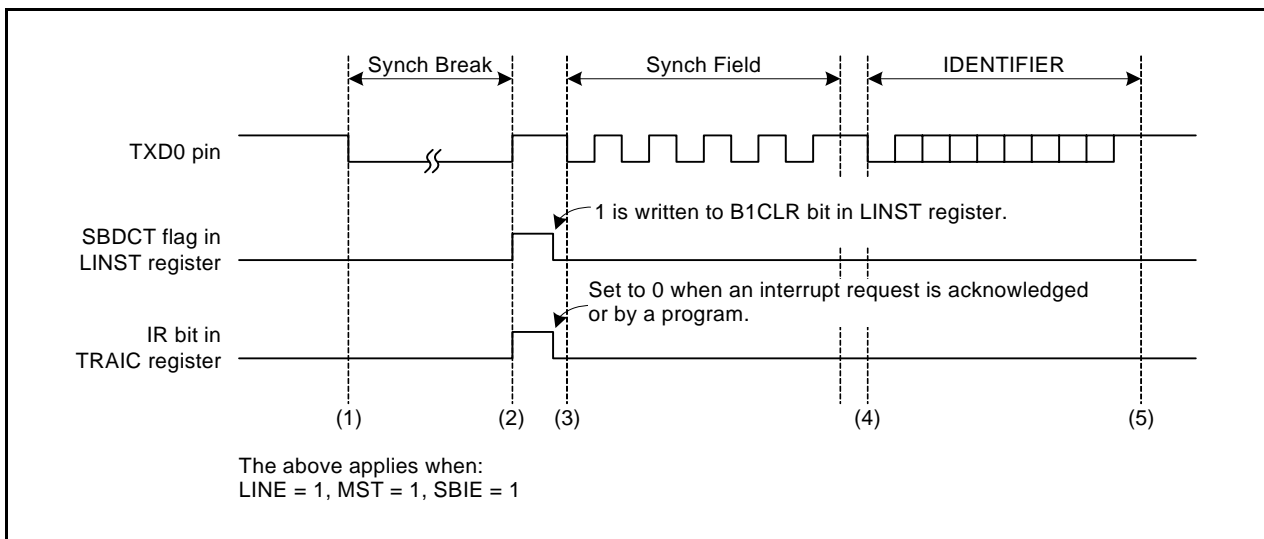
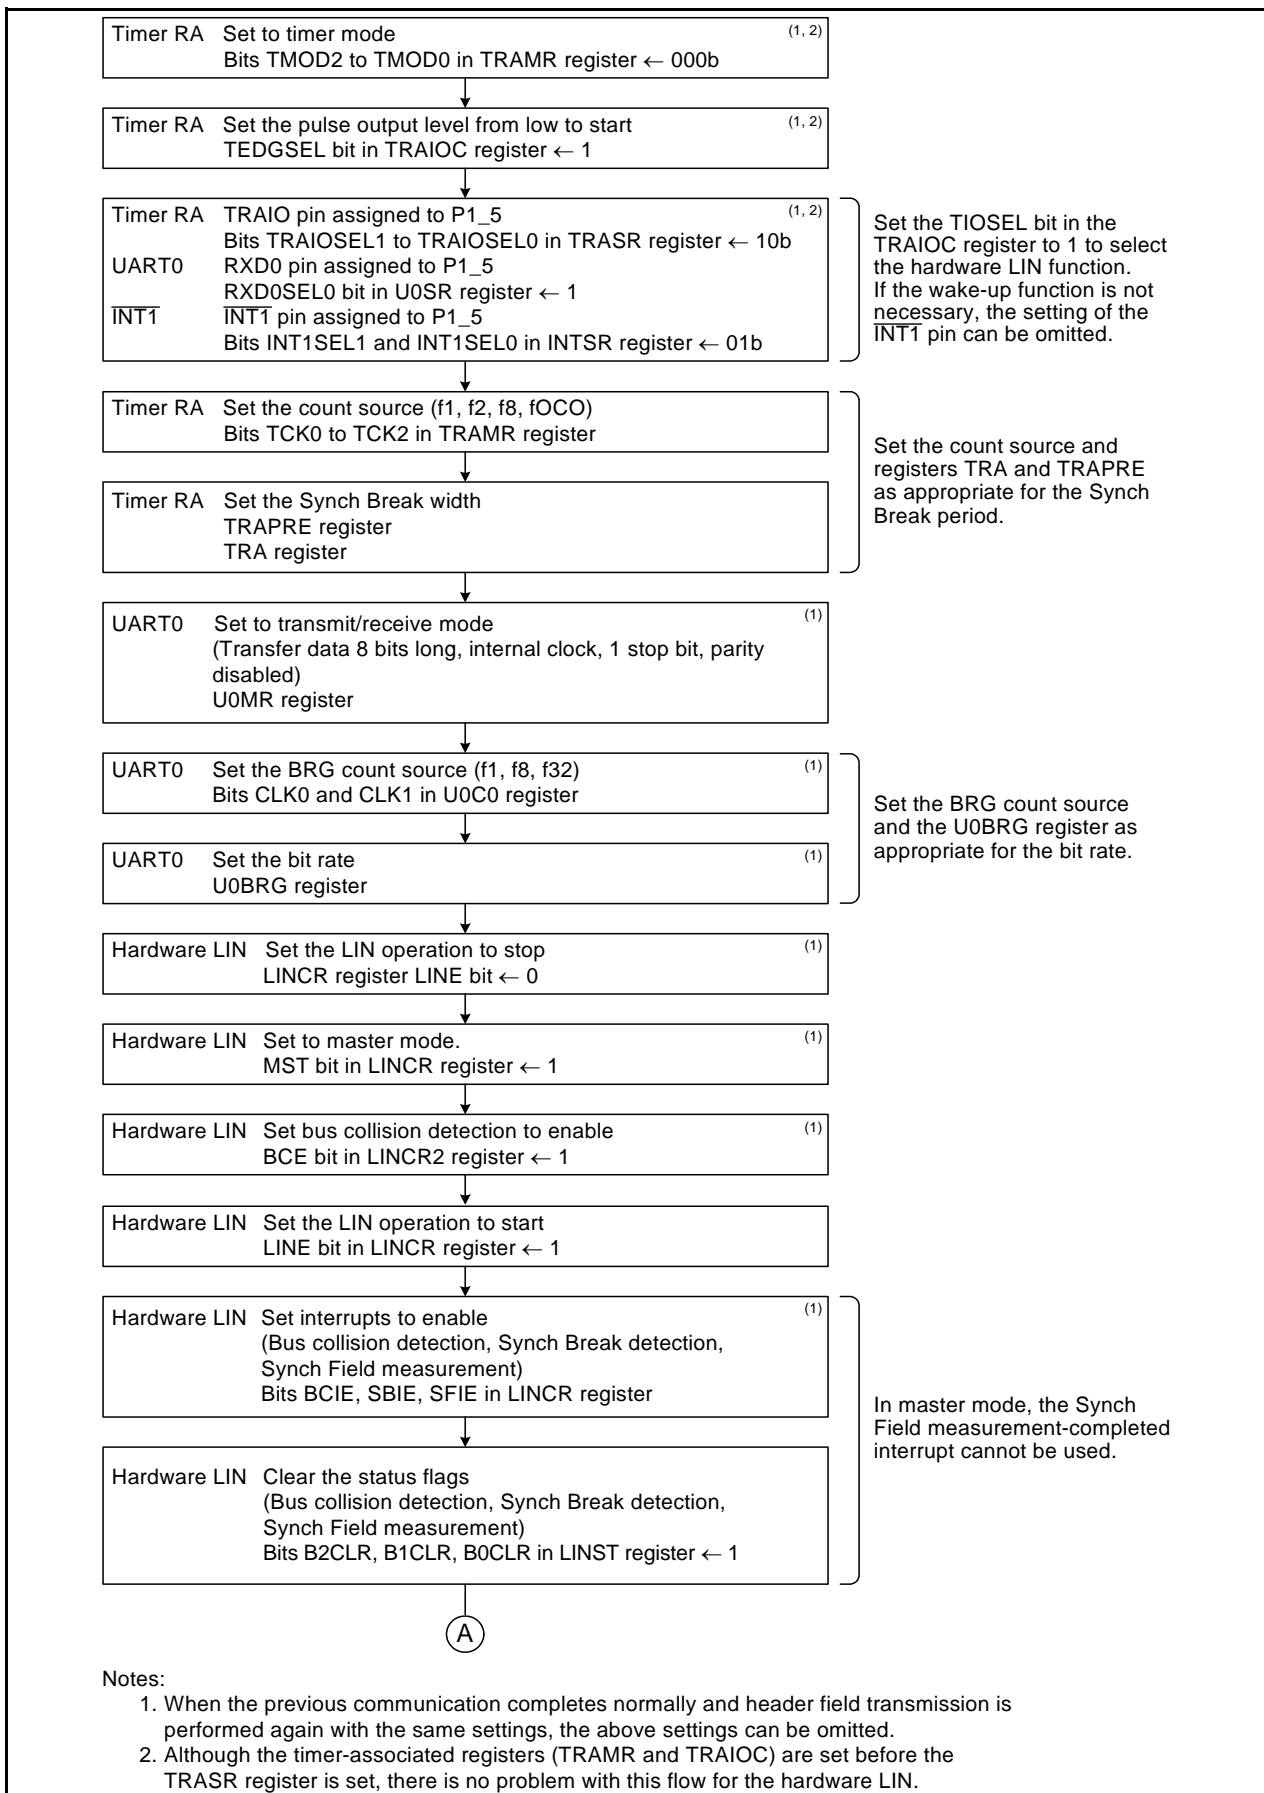

Figure 27.2 Operating Example during Header Field Transmission
Figure 27.3 Header Field Transmission Flowchart Example (1)
3. Inputs to timer RA and UART0 are disabled immediately after the LINE bit is set to 1 (LIN operation starts). (Refer to **Figure 27.3 Header Field Transmission Flowchart Example (1)** and **Figure 27.7 Header Field Reception Flowchart Example (2)**.)
Figure 27.2 shows an Operating Example during Header Field Transmission in master mode. Figures 27.3 and 27.4 show Examples of Header Field Transmission Flowchart.